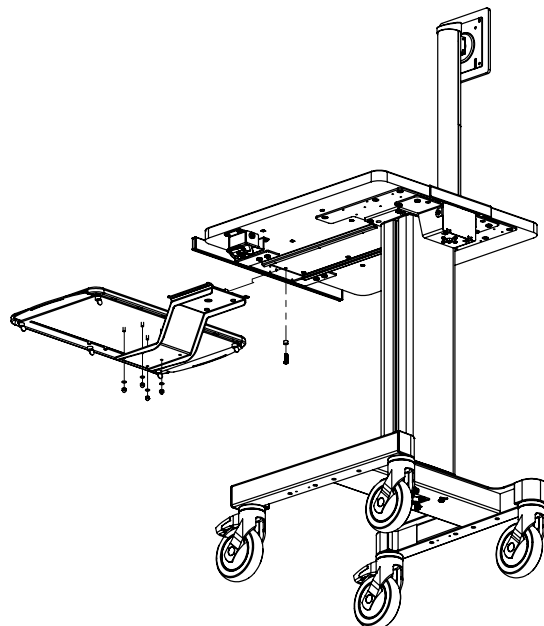

Figure 8
- c. **LCD/Display with Sliding Keyboard Tray Model (outside North America only):** First slide the keyboard tray bracket (**Box B**) into the worktop keyboard tray track (**Figure 8**) and insert 10 - 24 x 1/2" long screws through spacer/stopper into keyboard tray track to secure. Remove the bottom acorn nuts and #10 washers from the Sliding Keyboard Tray (**Box 2/2**) and align them with the keyboard tray bracket holes. Fasten back #10 washer and acorn nuts (**Figure 8**).